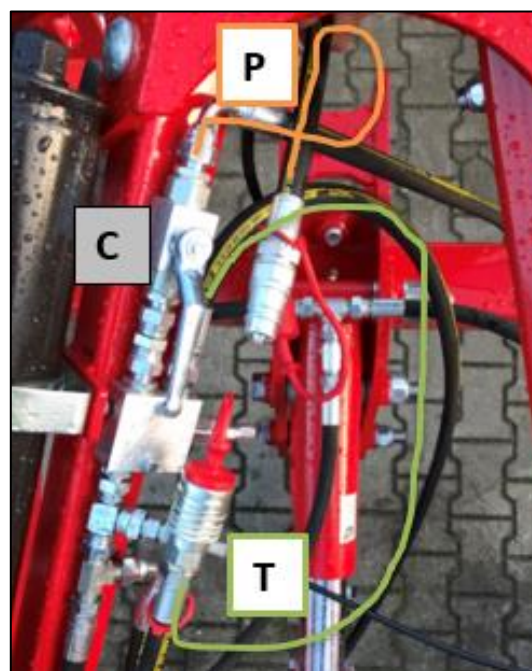

Figure 8 (P) is the pressure hose, (T) is the free hose, (C) is the crane.
When connecting the hydraulic rock protection hoses, make sure that the crane (C) on the machine is shut. The pressure hose (P) should be connected to a single acting spool valve. The hose (P) is the pressure hose, T is the free return hose. See Figure 8.